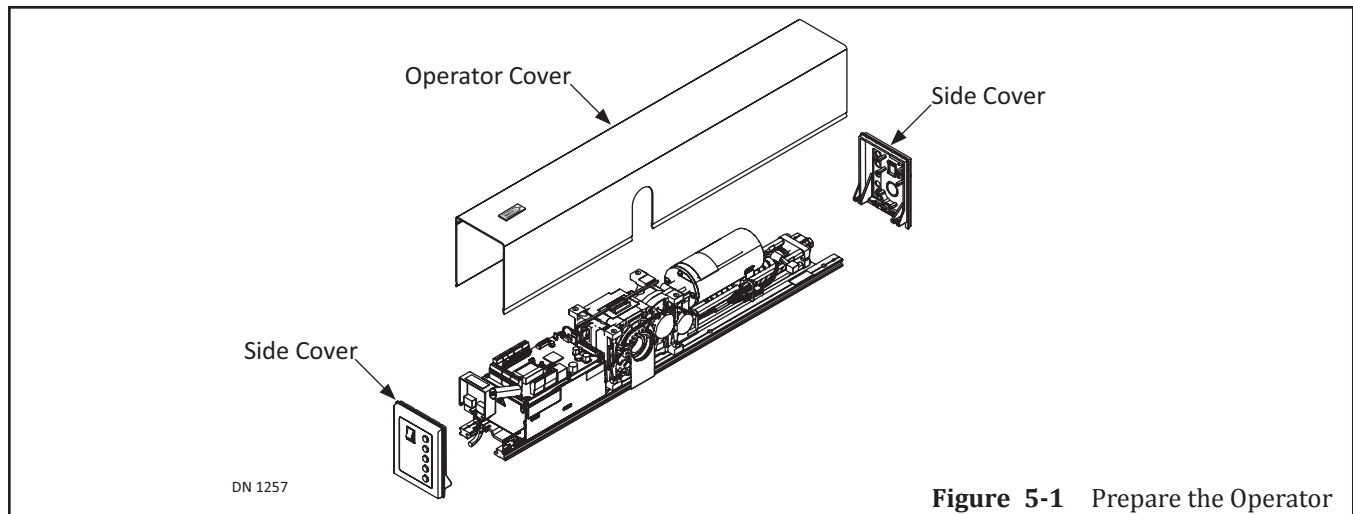

Figure 5-1 Prepare the Operator
2. Lift up and remove the Cover. Set aside. Please see Figure 5-1.